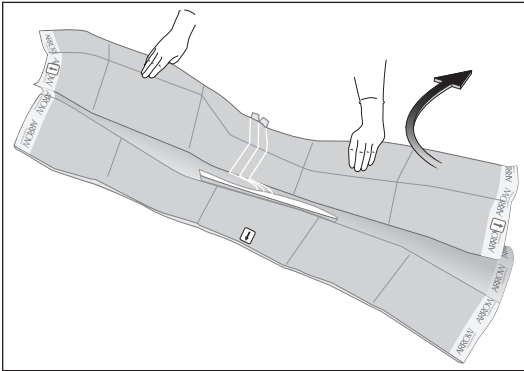

Figure 19
- Unfold towards head (refer to Figure 19).